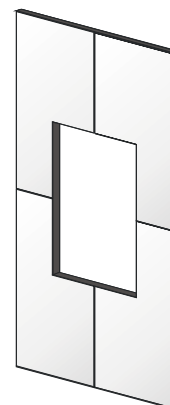

Figure 2 - Example of decorative frame
- ✓ The second contains the decorative frame. (Fig. 2)